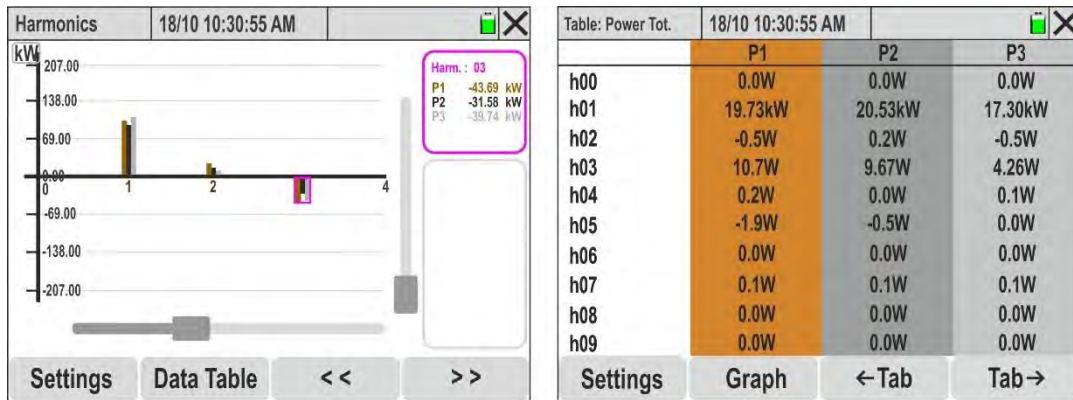

Fig. 59: Harmonic analysis of the active powers
21. **When the 3 active powers are selected**, the bar graphs of the quantities P1, P2 and P3 are shown in Fig. 59 – left part
23. Touch the **"Data Table"** key to switch from the numeric display. The screen in Fig. 59 – right side is shown on the display. The parameters **"hxx"** indicate the amplitude of the power harmonic xx, for each selected channel